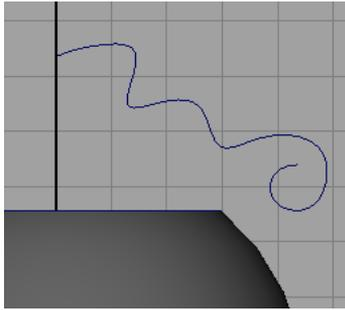

*Figure 3-77 The refined shape of the spout*
8. Modify the shape of the spout to refine it using **Scale Tool** and **Move Tool**, as shown in Figure 3-77.